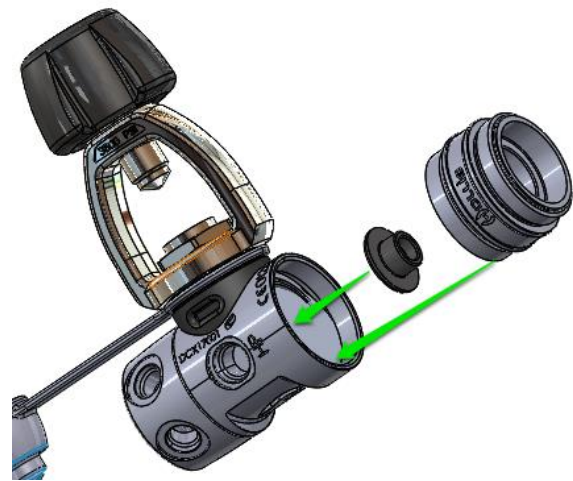

Fig. 41
- c. Place the diaphragm plate 7007 into the body 01.000164.8 on top of the diaphragm 01.000031 with the collar facing up. Lubricate the end cap 8150.8 threads and screw onto the body 01.000164.8 turning it clockwise by hand until secure (Fig. 41).